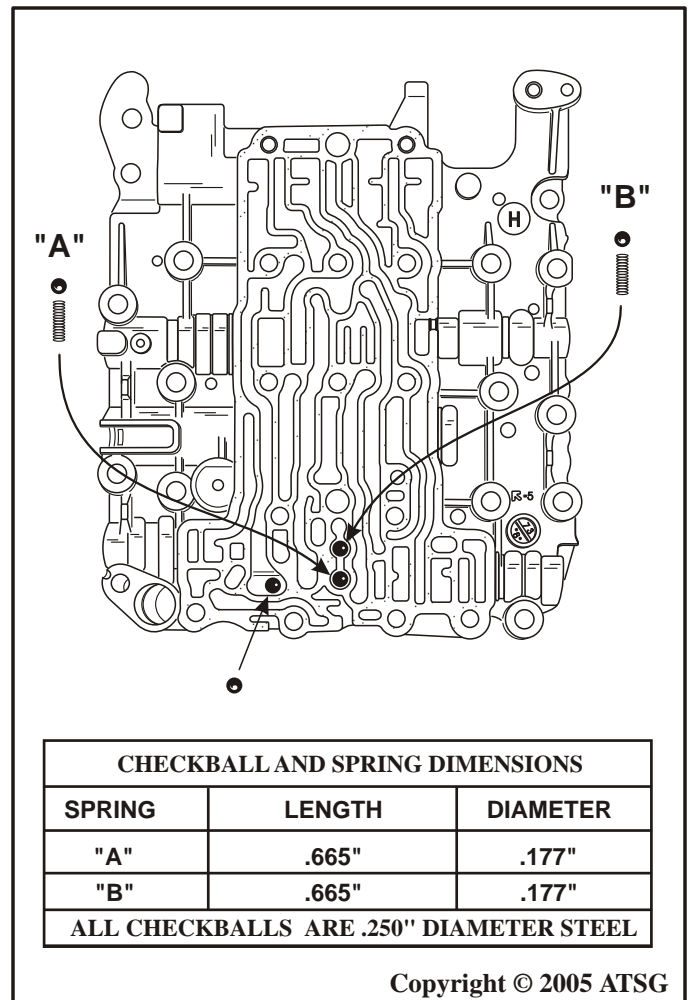

Figure 148
25. Turn the valve body over with the spacer plate facing down, as shown in Figure 148.
26. Install the "A" check ball and spring with the spring going in first, as shown in Figure 148.
27. Install the "B" check ball and spring with the spring going in first, as shown in Figure 148.
28. Install the last check ball into the bath tub, as shown in Figure 148.
- Note: Spring and check ball dimensions are shown in Figure 148.*